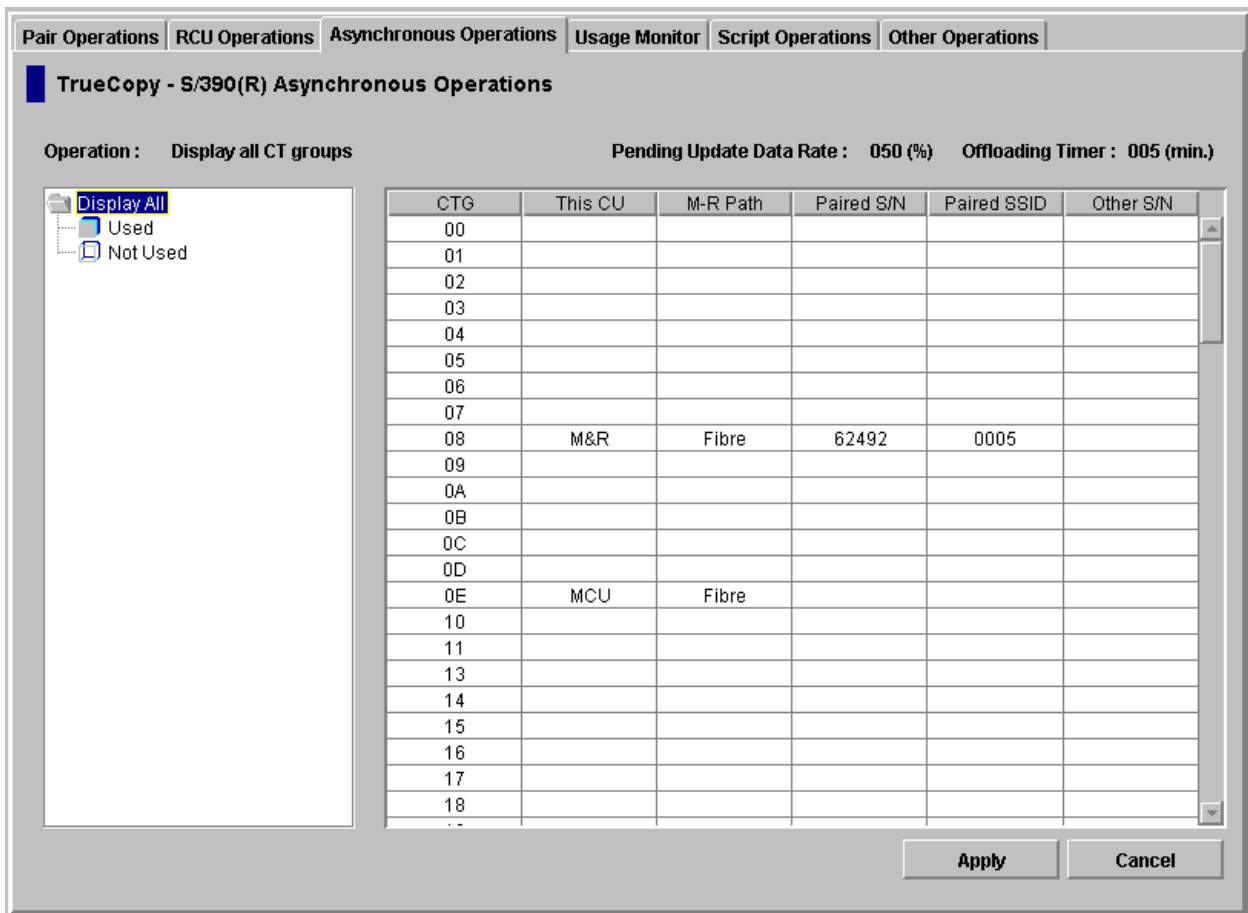

Figure 4.6 Asynchronous Operations Tab
The **Asynchronous Operations** tab (see Figure 4.6) displays the consistency (CT) group information for the connected subsystem and allows you to perform the TrueCopy - S/390® Asynchronous configuration operations (see section 4.3).